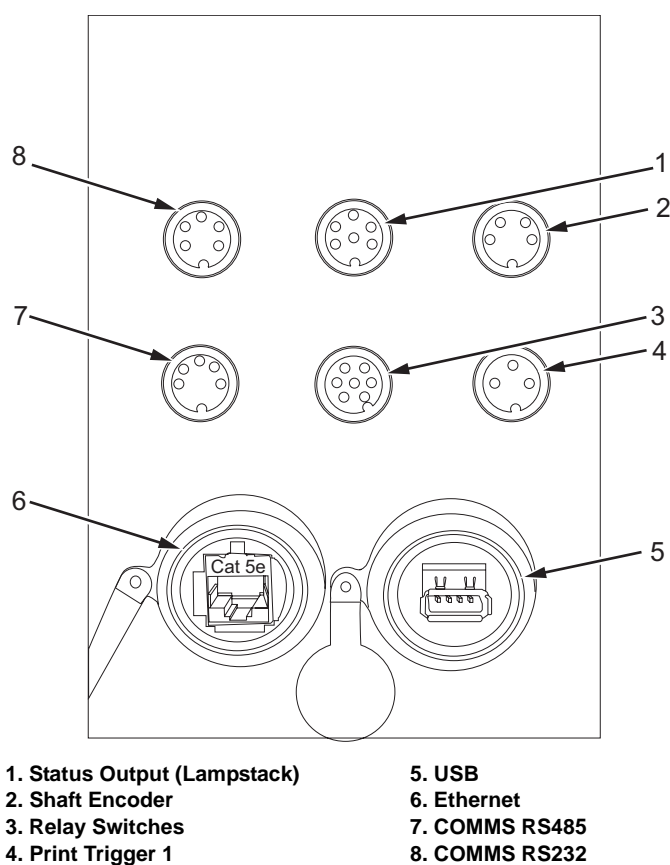

Figure 3-8: Connector Panel
The connector panel is on the left side of the printer (item 5, Figure 3-1 on page 3-1). The panel contains the connectors shown in Figure 3-8 on page 3-8.